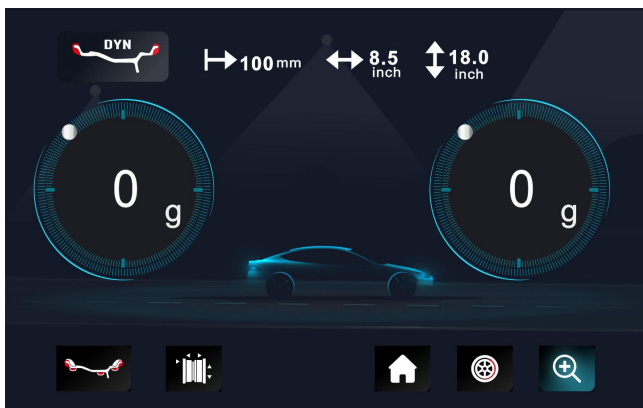

Fig. 5
4.1.8. After finishing clipping the counterweights, put down the guard and press  , to perform balancing spin again, if it comes out 00 00, means balancing succeed. (Fig.5)